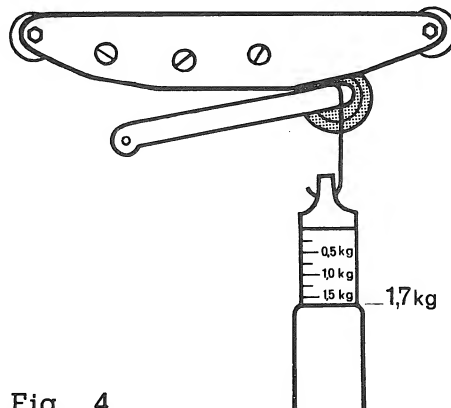
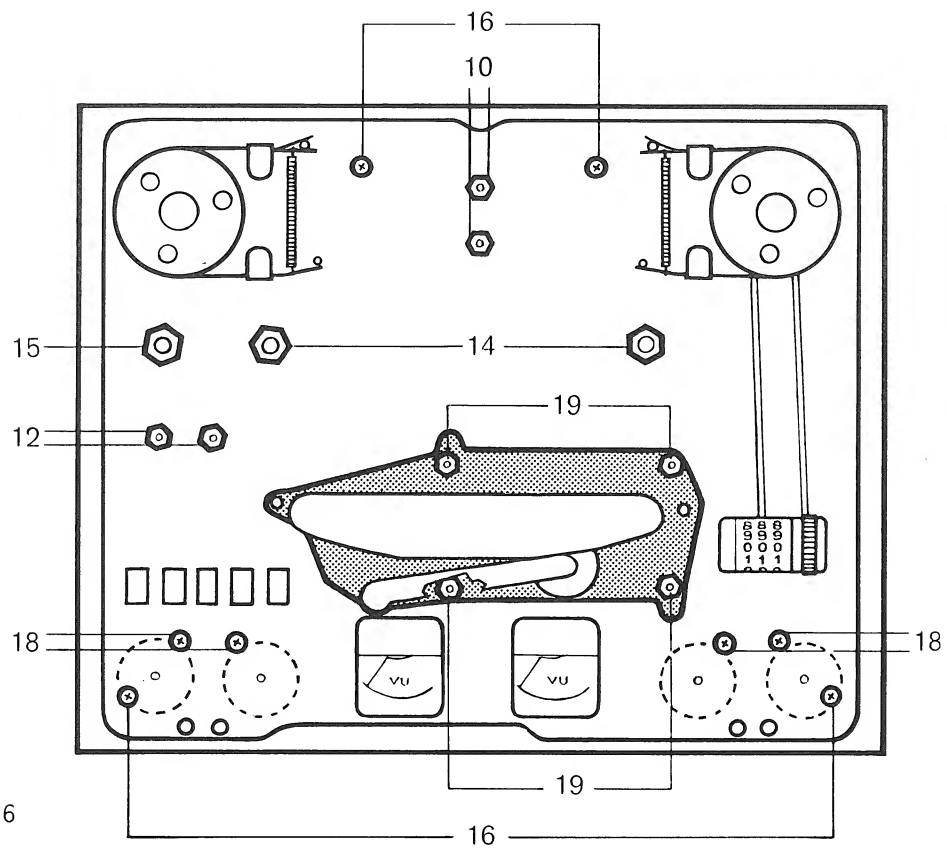
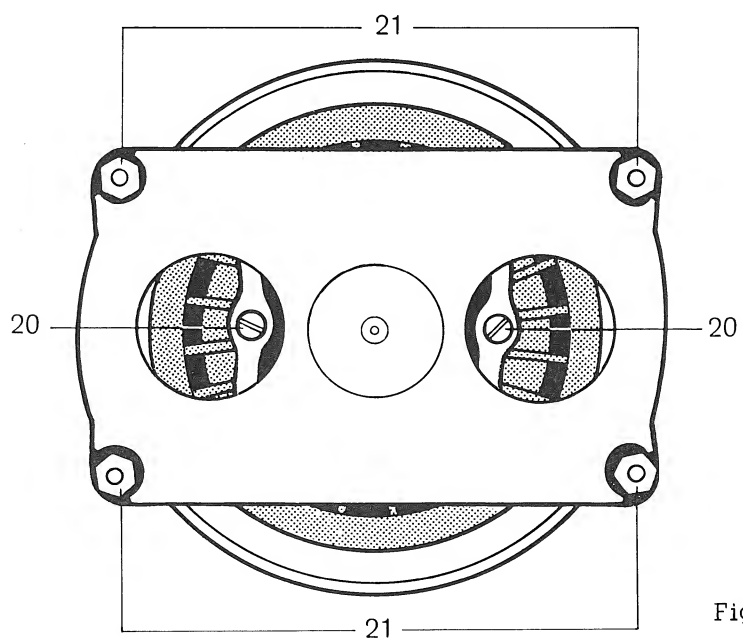

Fig. 4
Fig. 6
Fig. 7
The pressure of the pinch roller can be measured by a gauge fixed to the pinch roller arm as close as possible to the spindle of the pinch roller ( fig. 4 ). A constant tone tape should be played and the pinch roller withdrawn by the gauge until the note is heard to change. A reading in the region of 1,7 kg should be obtained. Adjustment to this value can usually be obtained by turning nut no 13 in fig. 5. Should this not provide the necessary amount of correction it is advisable to check the position of the solenoid no 11 in fig. 5 which will be correct when there is approx. 0.5 mm clearance at point A ( fig. 5 ) with the solenoid energized. It is essential that the solenoid's slug fully bottoms in the energized position and when properly adjusted, there should be no movement of the slug when lifting the pinch roller off the capstan. Correct setting can be obtained by loosening the nuts ( 12 in fig. 6 ) and moving the solenoid in the required direction.
Conventional switch cleaners are not recommended for the high current spring contacts used in the REVOX, and where cleaning is necessary, the contacts should be polished clean. The interlocking bars and push-button shafts may require occasional greasing with molybdenum grease. Where a part of the assembly needs replacement, unscrew the four fixing screws, bend the pushbuttons to the right and ease the unit to a better working position. For better access to the switch assembly, the housing of the pinch roller solenoid should be removed by undoing the M 4 nuts ( pos. 12 in fig. 6 ).
Having removed the chassis, as described in sect. 2.1. from the cabinet and the loudspeaker and panel, separate upper and lower chassis sections by undoing screws no 16 shown in fig. 6. Lift upper chassis without exerting excessive force, if necessary loosen the fixing screws of the selector switches ( 18 in fig. 6 ) to gain more freedom of movement.
Unscrew the capstan mounting nuts ( 19 in fig. 6 ) and remove the assembly downwards and forwards out of the chassis. The fixing screws 20 in fig. 7 on the flexible coupling are to be removed through the large holes in the capstan bearing plate. The motor mounting screws ( 21 fig. 7 ) should now be removed using REVOX's special 8 mm nut driver, after which the flywheel assembly can be separated from the motor.